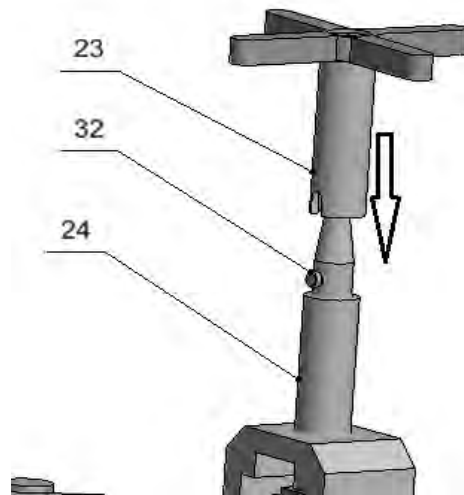

Fig. 8
Place the mandrel with a pan to a pin (32) of vertical rocker extension (24) so that the pin fitted mandrel (23) milling. (Fig.8)